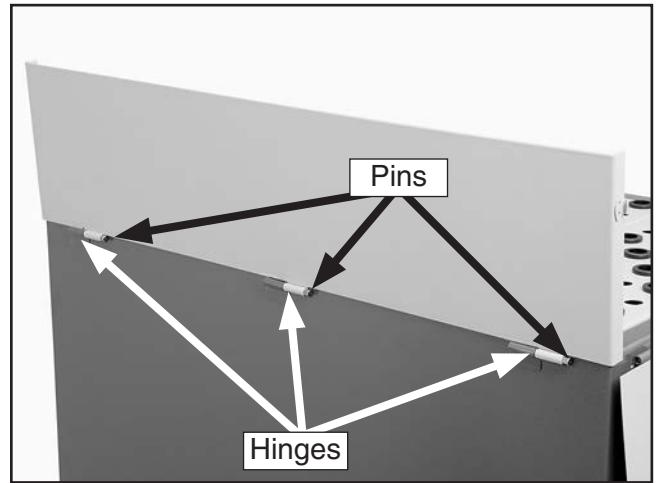

Figure 9. Center panel installed.
7. Align the center panel and rear sanding table hinges, and secure with three pins as shown in **Figure 9**.